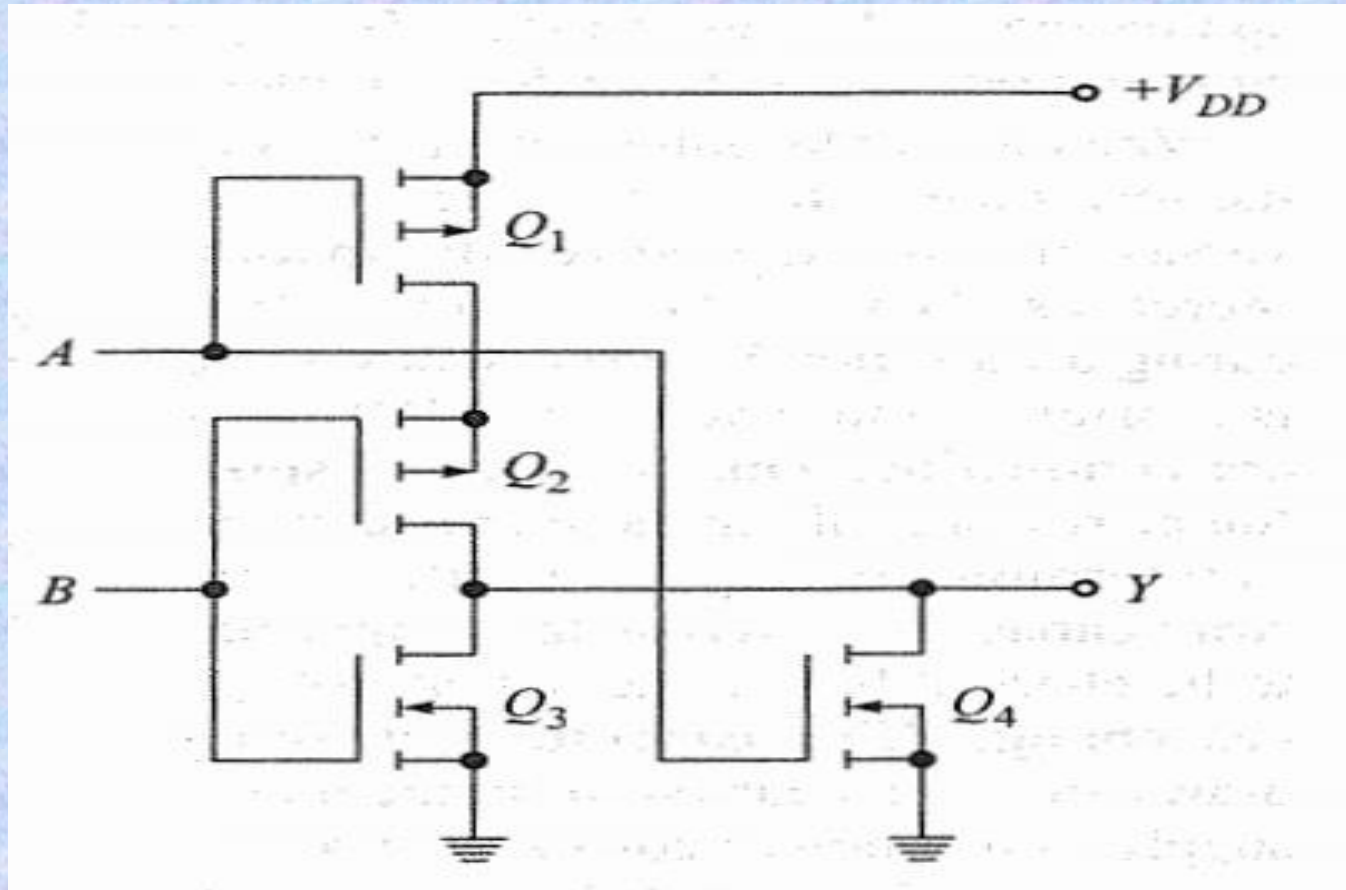

Fig. 1.30 CMOS NOR gate
- Figure 1.30 shows a CMOS NOR gate. The output goes high only when Q_1 and Q_2 are closed. The output goes low if either Q_1 or Q_2 is closed. There are four possible cases: